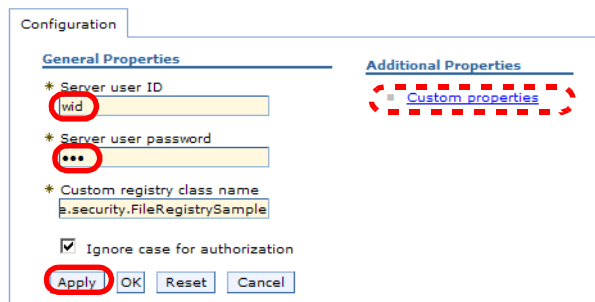

Figure 11-13 Custom registry definition
- Enter `wid` as user ID and password (Figure 11-13).